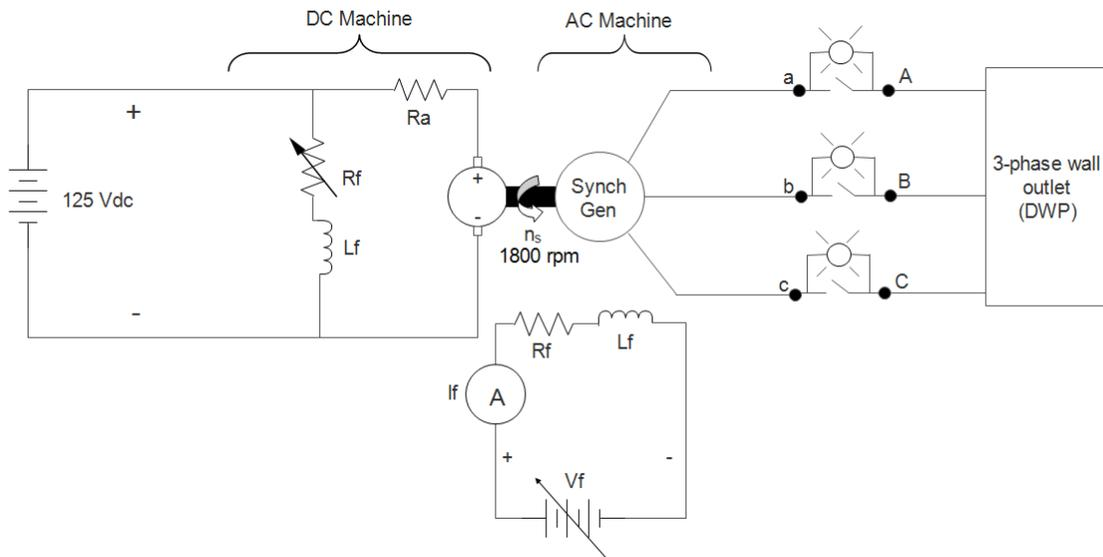

Figure 9.1. Synchronizing with the system.
- Between the three-phase power supply and the generator connect a three-phase switch with light bulbs as shown in Figure 9.1.